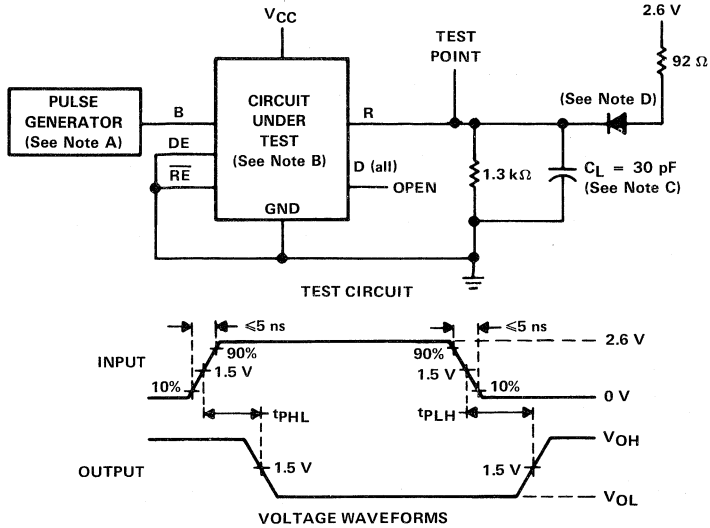

FIGURE 1. PROPAGATION DELAY TIMES FROM BUS TO RECEIVER OUTPUT
- NOTES: A. The pulse generator in Figures 1 and 2 has the following characteristics: PRR ≤ 10 MHz, duty cycle = 50%, Z₀ ≈ 50 Ω.